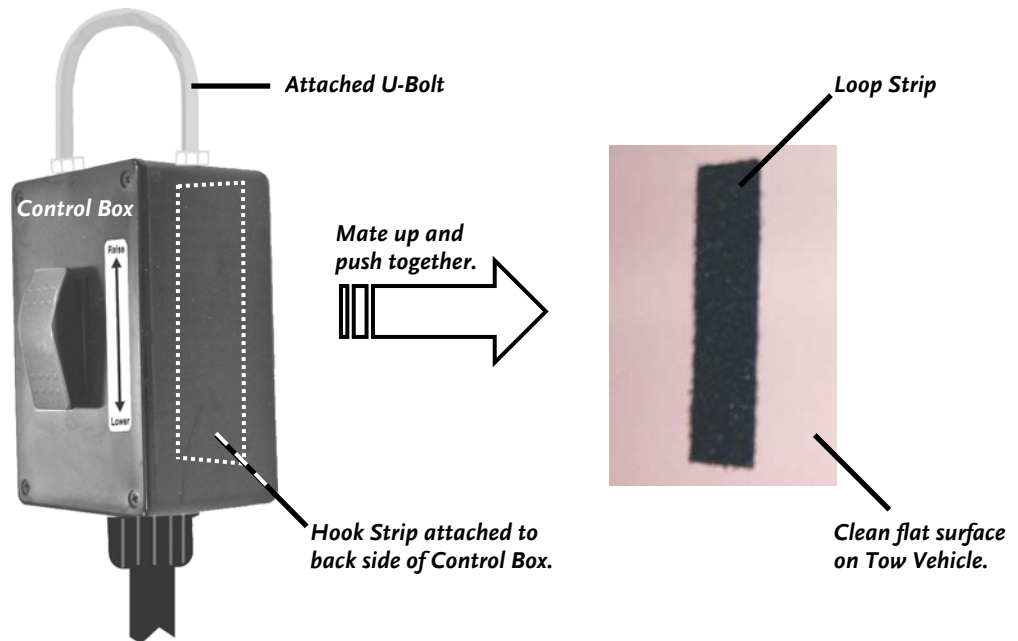

Figure 16
1. Hang the Control Box by the attached U-Bolt (**Figure 16**) in an accessible and comfortable position on your Tow Vehicle from which you can operate the Height Adjustment Control Box w/Rocker Switch, or
2. Attach the Control Box on a clean flat surface using the self-adhesive Hook and Loop strips provided with the DR POWER GRADER (**Figure 16**).